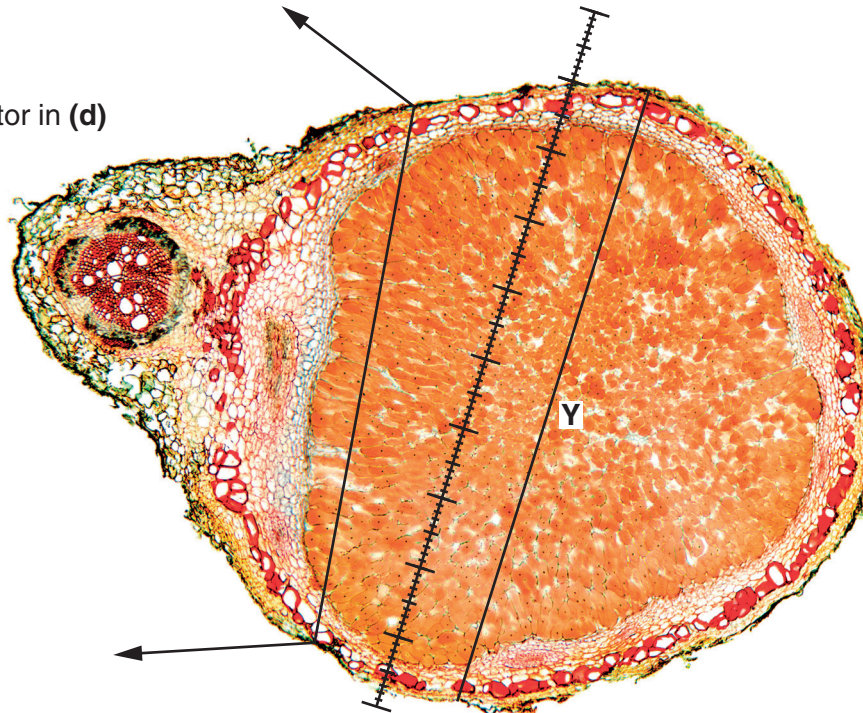

Fig. 2.3
- (ii) Fig. 2.3 is a photomicrograph showing a stained transverse section through a root with a root nodule.
Fig. 2.3 was produced using the same microscope with the same lenses as the student.
Use the calibration of the eyepiece graticule division from (c)(i) and line **Y** shown on Fig. 2.3 to calculate the actual total width as shown by line **Y**.
(d) Draw a large plan diagram of the sector as shown on Fig. 2.3.